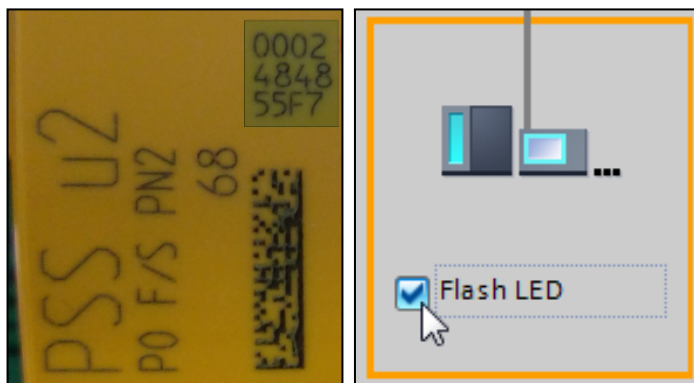

Figure 44: TIA – Assign device name » MAC / Function "Flash LED" (Part 2, Identification)
- ▶ The PSS u2 system, that is to be named, can be uniquely identified by MAC address and IP address. The "Devices MAC address" is lasered on the front of the head module above the DIP switches to the right of the serial number (see left picture in Figure 44).